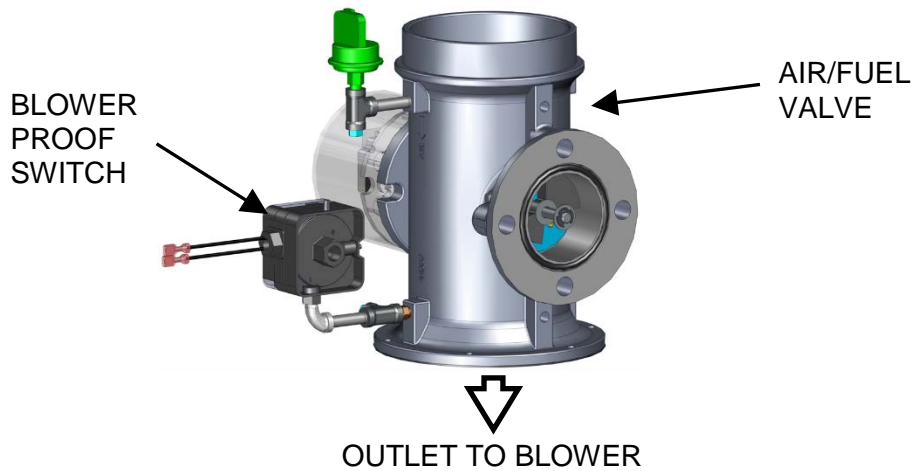

Figure 3-5. Blower Proof Switch
4. Next, the **Blower Proof** switch on the Air/Fuel Valve (Figure 3-5) closes. The display will show **PURGING** and indicate the elapsed time of the purge cycle in seconds.